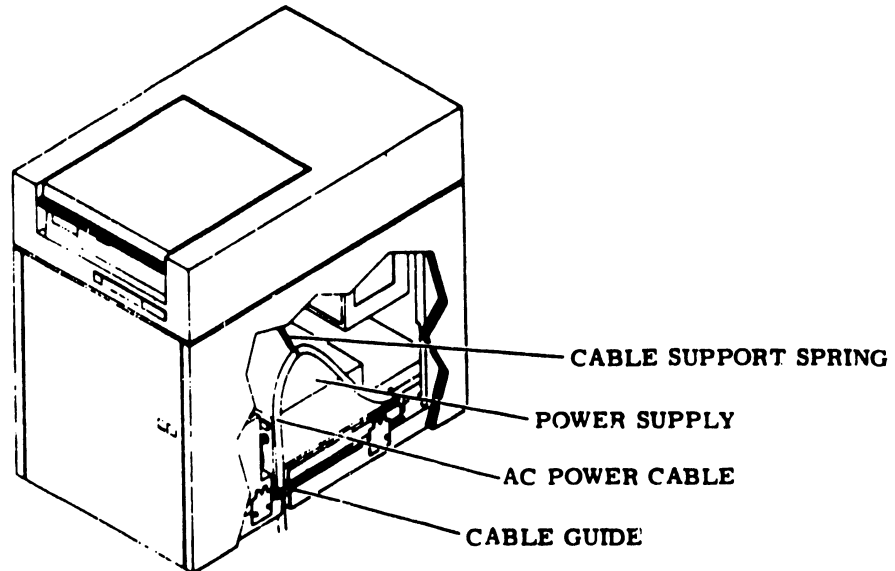

FIGURE 4-19 POWER CABLE ROUTING
- A. The drive power cable is routed and connected as follows (refer to Figure 4-19). Remove the two screws securing the cable guide to the frame; remove the cable guide.